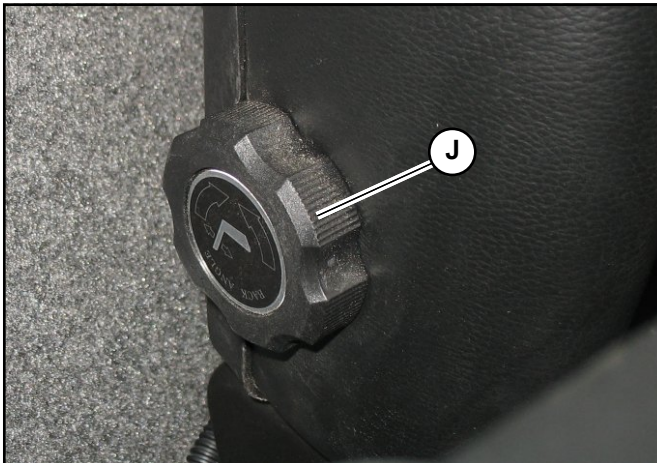

Fig. 70 – Seat Tilt Adjustment
- Forward and back horizontal seat position, separate from armrest position (H).
- Operator weight suspension (air suspension) (E).
- Seat height (F).
- Seat back tilt adjustment (J, Fig. 70).
Seat back tilt is adjusted using knob (J, Fig. 70), located on the right side of the seat.